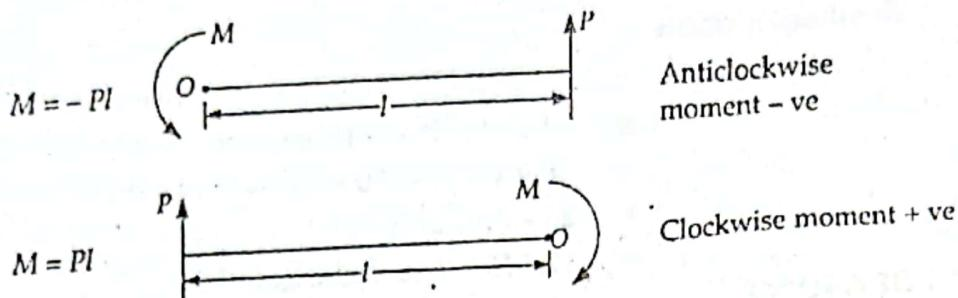

Fig. 18
- The tendency of rotation or turning of the body due to moment of force may be clockwise (in the same direction in which hands of the clock move) or anticlockwise (in a direct opposite to the movement of hands of a clock). The corresponding moments are referred as clockwise moment and anticlockwise moment. The general convention is to take the clockwise moments as positive and anticlockwise moments as negative (Fig. 18).